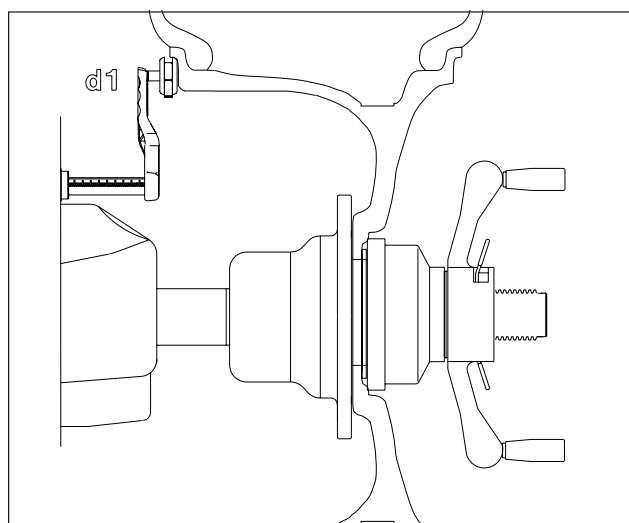

Figure 31
2. Extend the rim offset gauge arm and touch the desired position of the left weight position. See Figure 31. The display will read "d - 1". The high tone will sound when dimension is entered. Return the gauge arm to the rest position, a low pitch tone will indicate when it is OK to proceed.